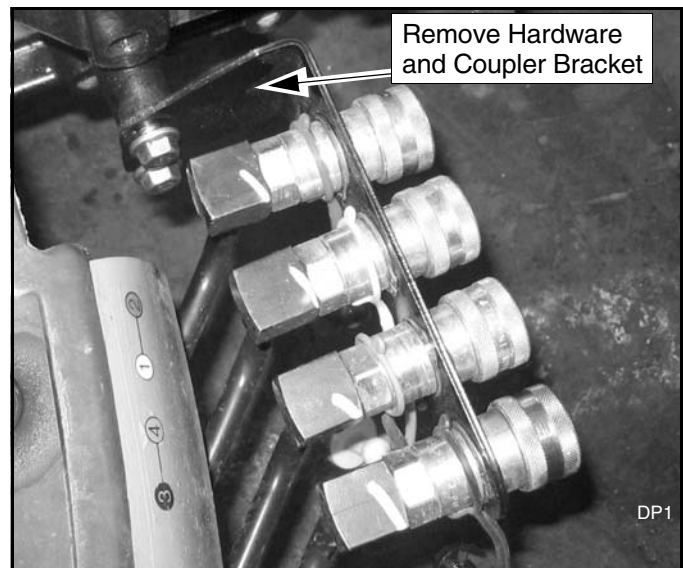

Figure 1. Remove Hydraulic Coupler Bracket
4. Remove two cap screws from tractor housing and remove coupler bracket shown in Figure 1.